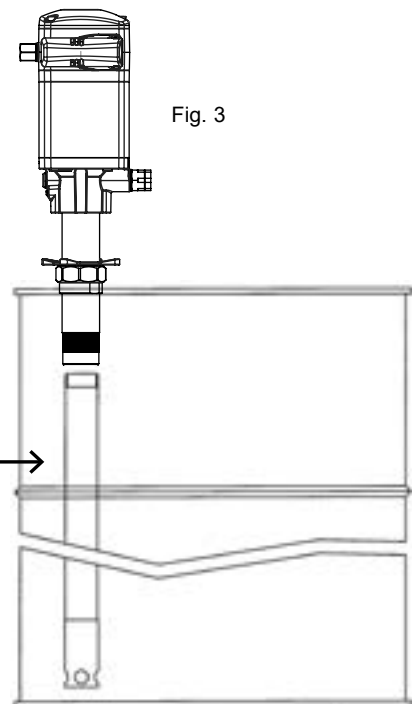

Fig. 3
- Adjustable drum or tank mounting, using bung adapter 360001. Screw the proper suction tube (see Fig. 3) to the foot valve of the pump. Screw the nut of the bung adapter to the 2" opening of the cover. Insert the suction tube through the nut and secure it with the star nut at the desired height.